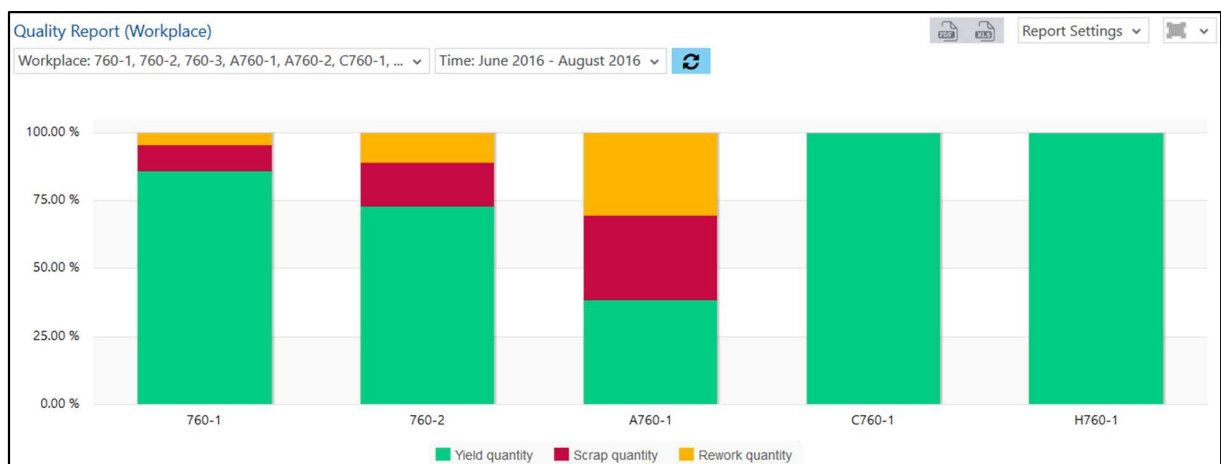

Fig. 97: Quality Report (Workplace) as a column chart
- Quality Report (Workplace) as a column chart (Fig. 97):